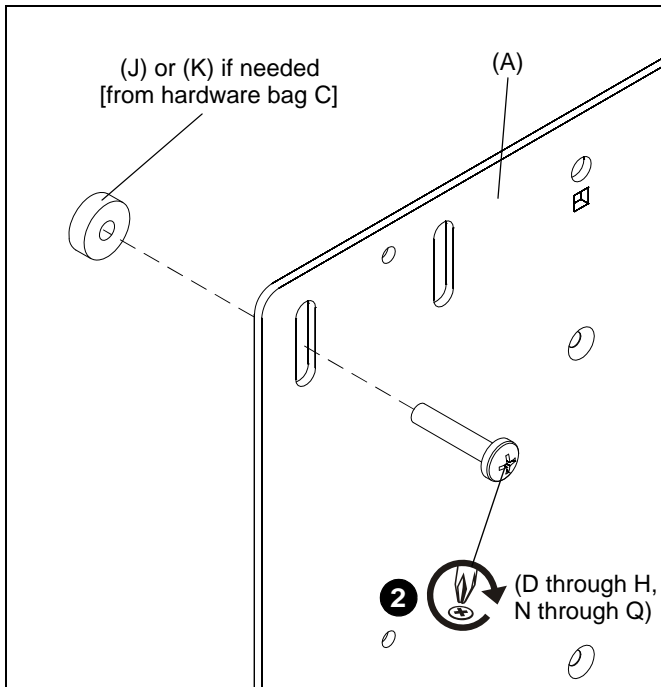

Figure 1
2. Using the same number of spacers (if required) and screws as holes in the display back, attach JSBV interface bracket to the display back. (See Figure 1)